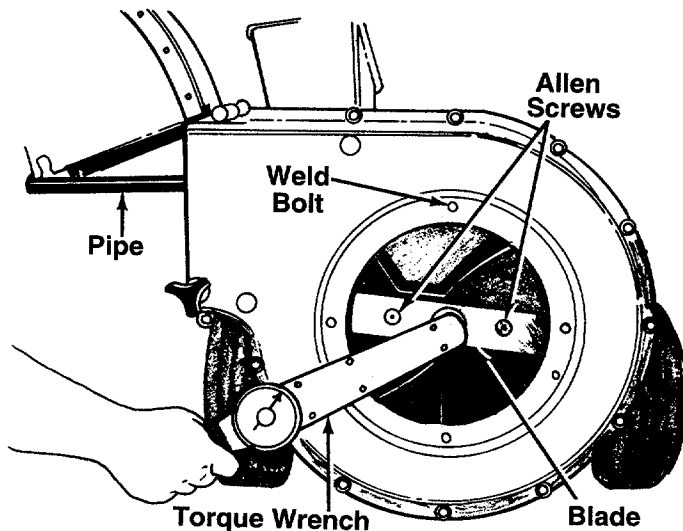

FIGURE 14.
Make certain blades are reassembled with the sharp edge facing the direction shown in figure 14 (sharp edge is assembled toward the slotted opening in the impeller assembly).
2. Lower the hopper assembly. Block up the housing. See figure 14.